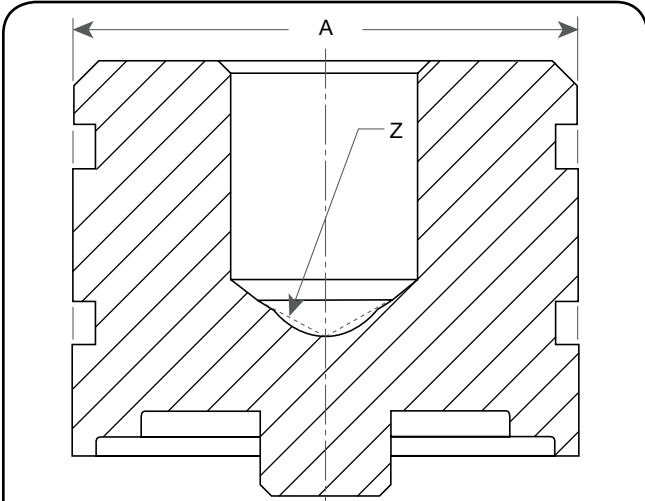

Figure 5: Soft Seat Disc
- Spindle bearing surface (Z) is galled or pitted.
- Outside diameter exceeds A min. mentioned in Table 2 and Figure 5.